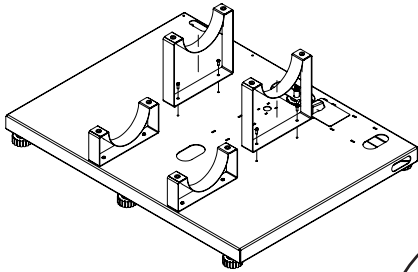

Fig 16.1 Primary boiler bracket assembly
2. Fix the Boiler base bracket on the base frame (fig.16.1).